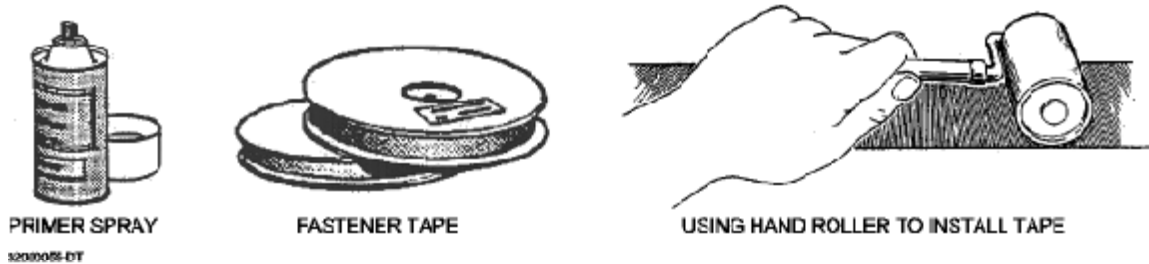

Figure 2-19. Fastener Tape Preparation.
- b. Spray a heavy coat of tape primer on the cleaned areas along the strip where the fastener tape will be applied. Allow primer to dry thoroughly before applying the fastener tape. (Follow the directions on the primer can.) (See Figure 2-19.)